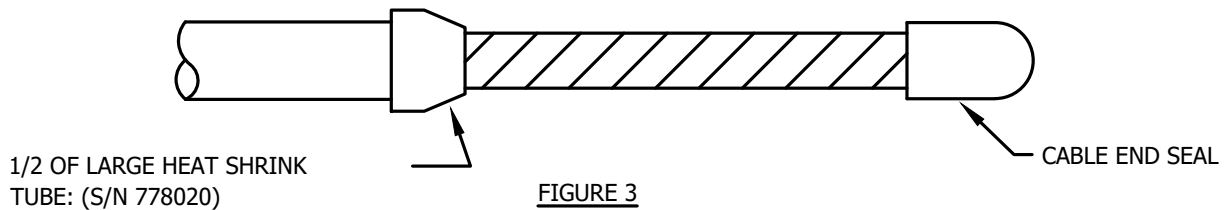

FIGURE 3
3. INSTALL CABLE END SEAL OVER CABLE END AND ONE-HALF OF LARGE HEAT SHRINK TUBE (S/N 778020) TO SEAL JACKET AS SHOWN IN FIGURE 3.